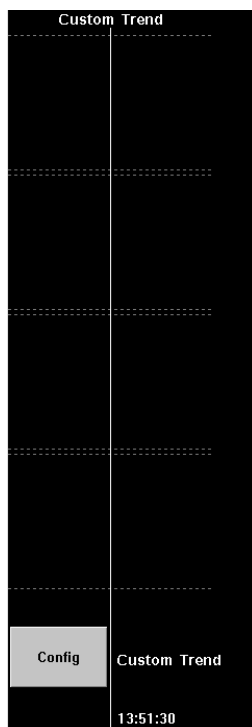

Figure 8-10. Custom Trend Page
1. In the trend dialog box, touch the **[Jump to Custom Trend]** button or touch the **[Next]** button until the custom trend page is displayed as shown in Figure 8-10.